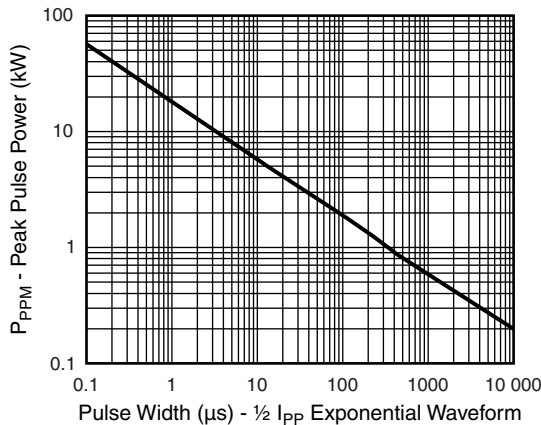
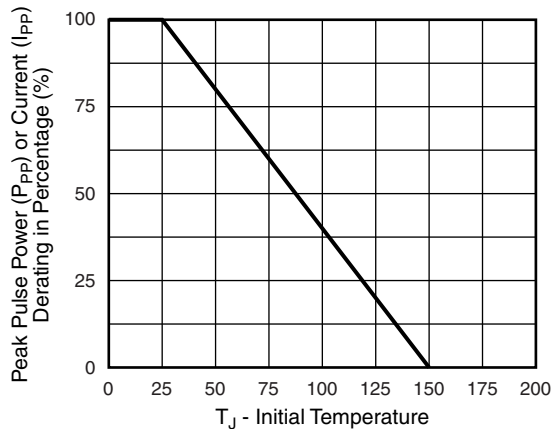

Fig. 1 - Peak Pulse Power Rating Curve
Fig. 2 - Pulse Power or Current vs. Initial Junction Temperature
- (1) Non-repetitive current pulse, per fig. 1 and derated above $T_A = 25$ °C per fig. 2.
- (2) Mounted on PCB with 5.0 mm x 5.0 mm copper pads attached to each terminal